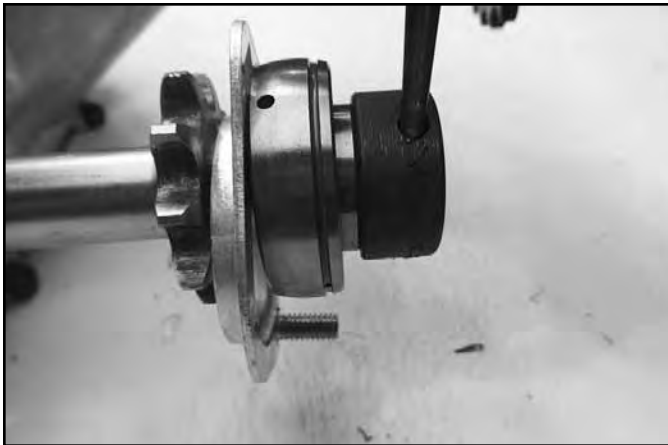

Fig. 112
- Insert a pin punch into the recessed hole in the lock collar. Tap the punch to turn the collar to loosen the collar (Fig. 112).